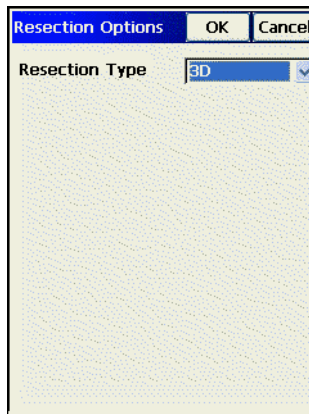

Figure 8-41. Resection Options
5. Select the **Options** item from the Help Icon menu in the upper-left corner of the **Resection 3D** screen. In the **Resection Options** screen (Figure 8-41), choose whether to calculate the height (3-D) or just the horizontal coordinates (2-D). The 2D/3D option is retained between sessions to do a new resection with the previously used setting.